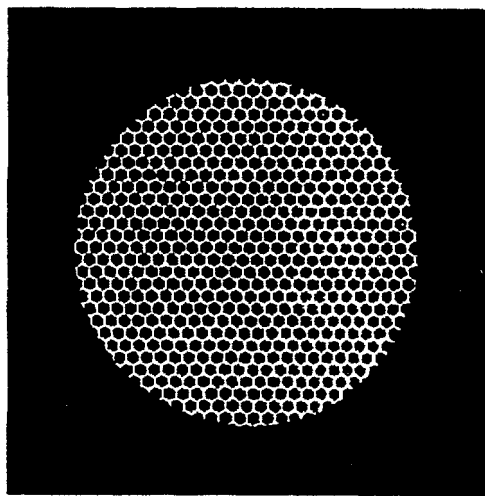

Figure 2-4. Fixed Pattern Noise .
e. **Fixed-Pattern Noise.** This is usually a cosmetic blemish in the image area characterized by a faint hexagonal (honeycomb) pattern throughout the viewing area that most often occurs at high-light or when viewing very bright lights (fig. 2-4). This pattern can be seen in every image intensifier if the light level is high enough. This condition is acceptable as long as you can resolve the resolution target at the high-light level. If resolution cannot be resolved at high light level, refer to higher maintenance level.